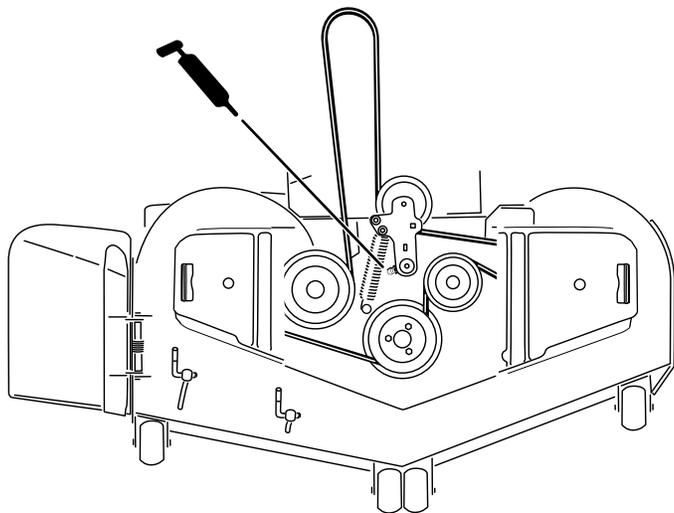
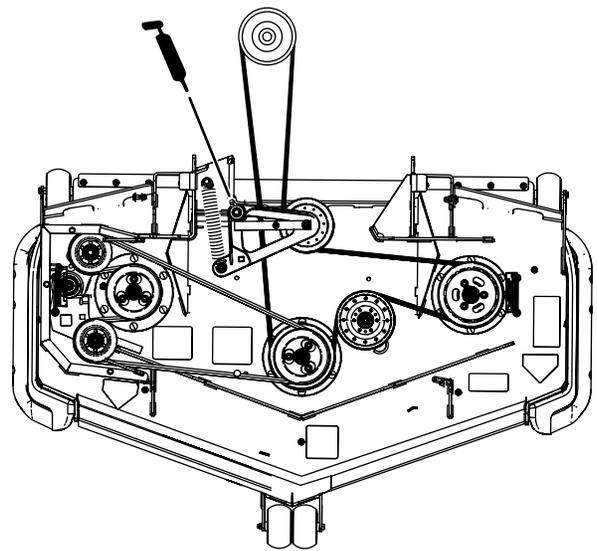

Figure 53
Figure 54
5. Grease the mower deck idler-pulley pivot until grease comes out the bottom (Figure 53 or Figure 54).